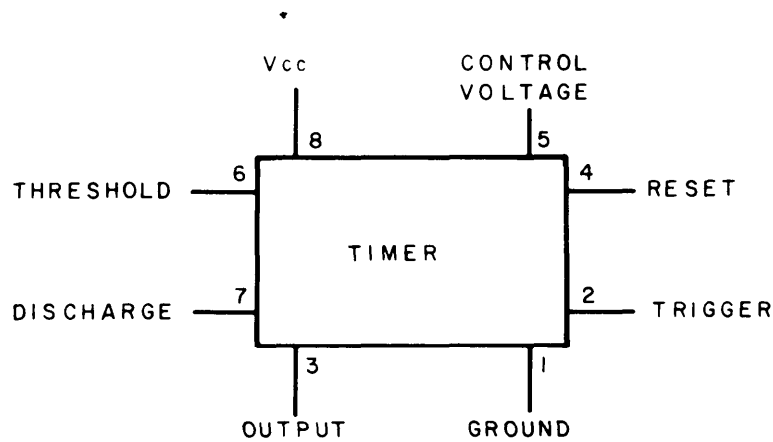

Figure 3-3. NE555 Timer Pin-Out Diagram
This device is used in the signal monitor as a multivibrator for dc to ac and dc to dc conversion. External resistors and a capacitor determine the duty cycle and free running frequency of the timer. The control voltage and reset pins of the timer are not utilized in the multivibrator application. With the trigger pin (2) connected to the threshold pin (6), the timer will trigger itself and free run. In this mode of operation, the external capacitor charges between 1/3 Vcc and 2/3 Vcc. The timer is shown in Figure 3-3.